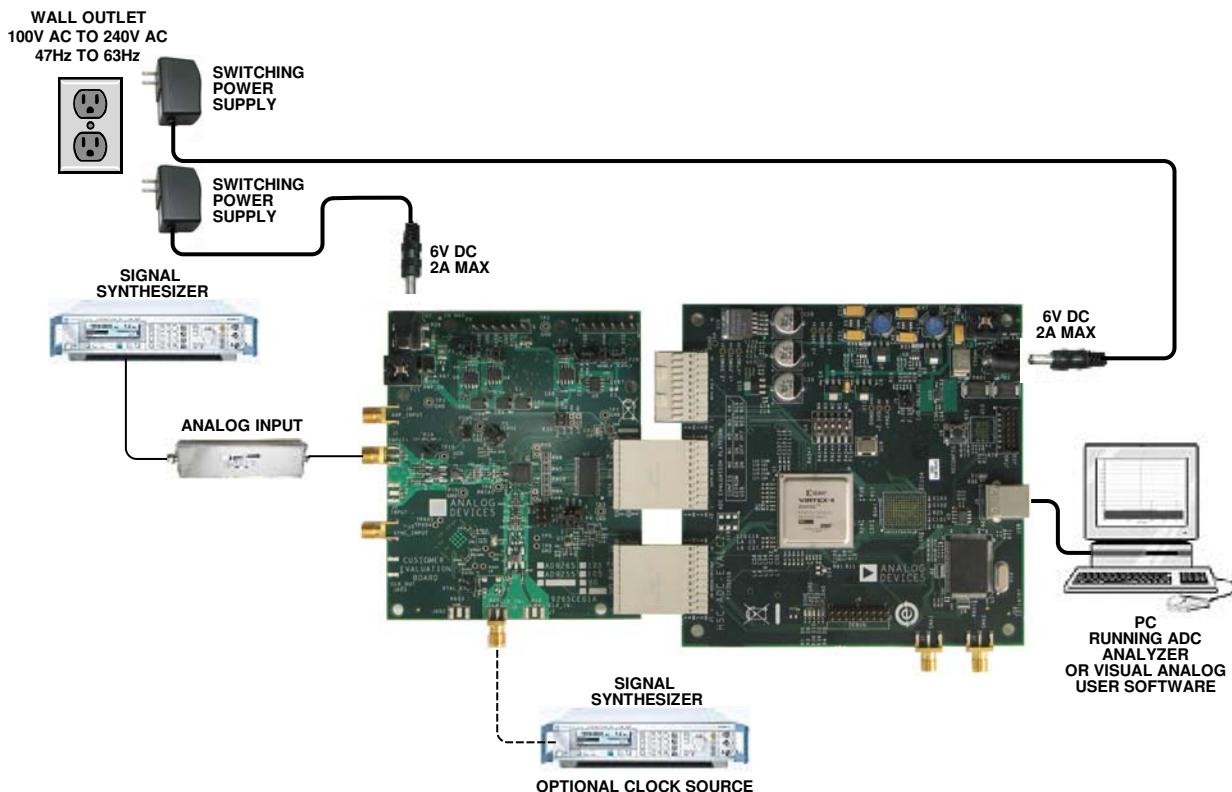

Figure 2. Evaluation Board Connection
The AD9265 and AD9255 evaluation board provides all of the support circuitry required to operate these parts in their various modes and configurations. Figure 2 shows the typical bench characterization setup used to evaluate the ac performance of the AD9265 or AD9255. It is critical that the signal sources used for the analog input and clock have very low phase noise (<1 ps rms jitter) to realize the optimum performance of the signal chain. Proper filtering of the analog input signal to remove harmonics and lower the integrated or broadband noise at the input is necessary to achieve the specified noise performance.
1. Connect the evaluation board to the data capture board, as shown in Figure 1 and Figure 2.